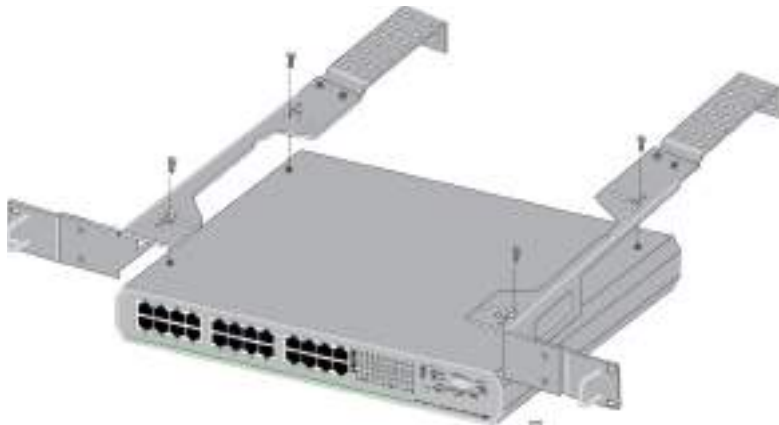

Figure 27. Attaching the Plates to the Switch
7. Attach the units in Step 5 to the switch with M3x6mm screws using a Phillip-head screw driver as shown in Figure 27.